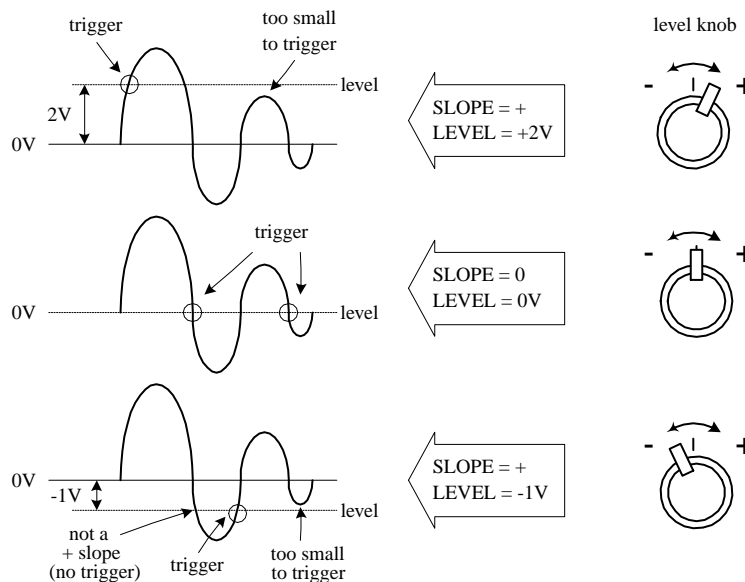

FIGURE 14.31
- NORM.* Used for triggered sweep operation. The triggering threshold is adjustable by means of the triggering LEVEL control. No sweep is generated in the absence of the triggering signal or if the LEVEL control is set in such a way as to allow the threshold to exceed the amplitude of the triggering signal (see Fig. 14.31).
- **LEVEL knob.** Used to trigger a sweep. LEVEL sets the point when scope will trigger based on the amplitude of the applied signal. The level can be shifted up or down. The READY/TRIGGER indicator turns on when the sweep is triggered, indicating that the triggering LEVEL control is within the proper range (see Fig. 14.31).